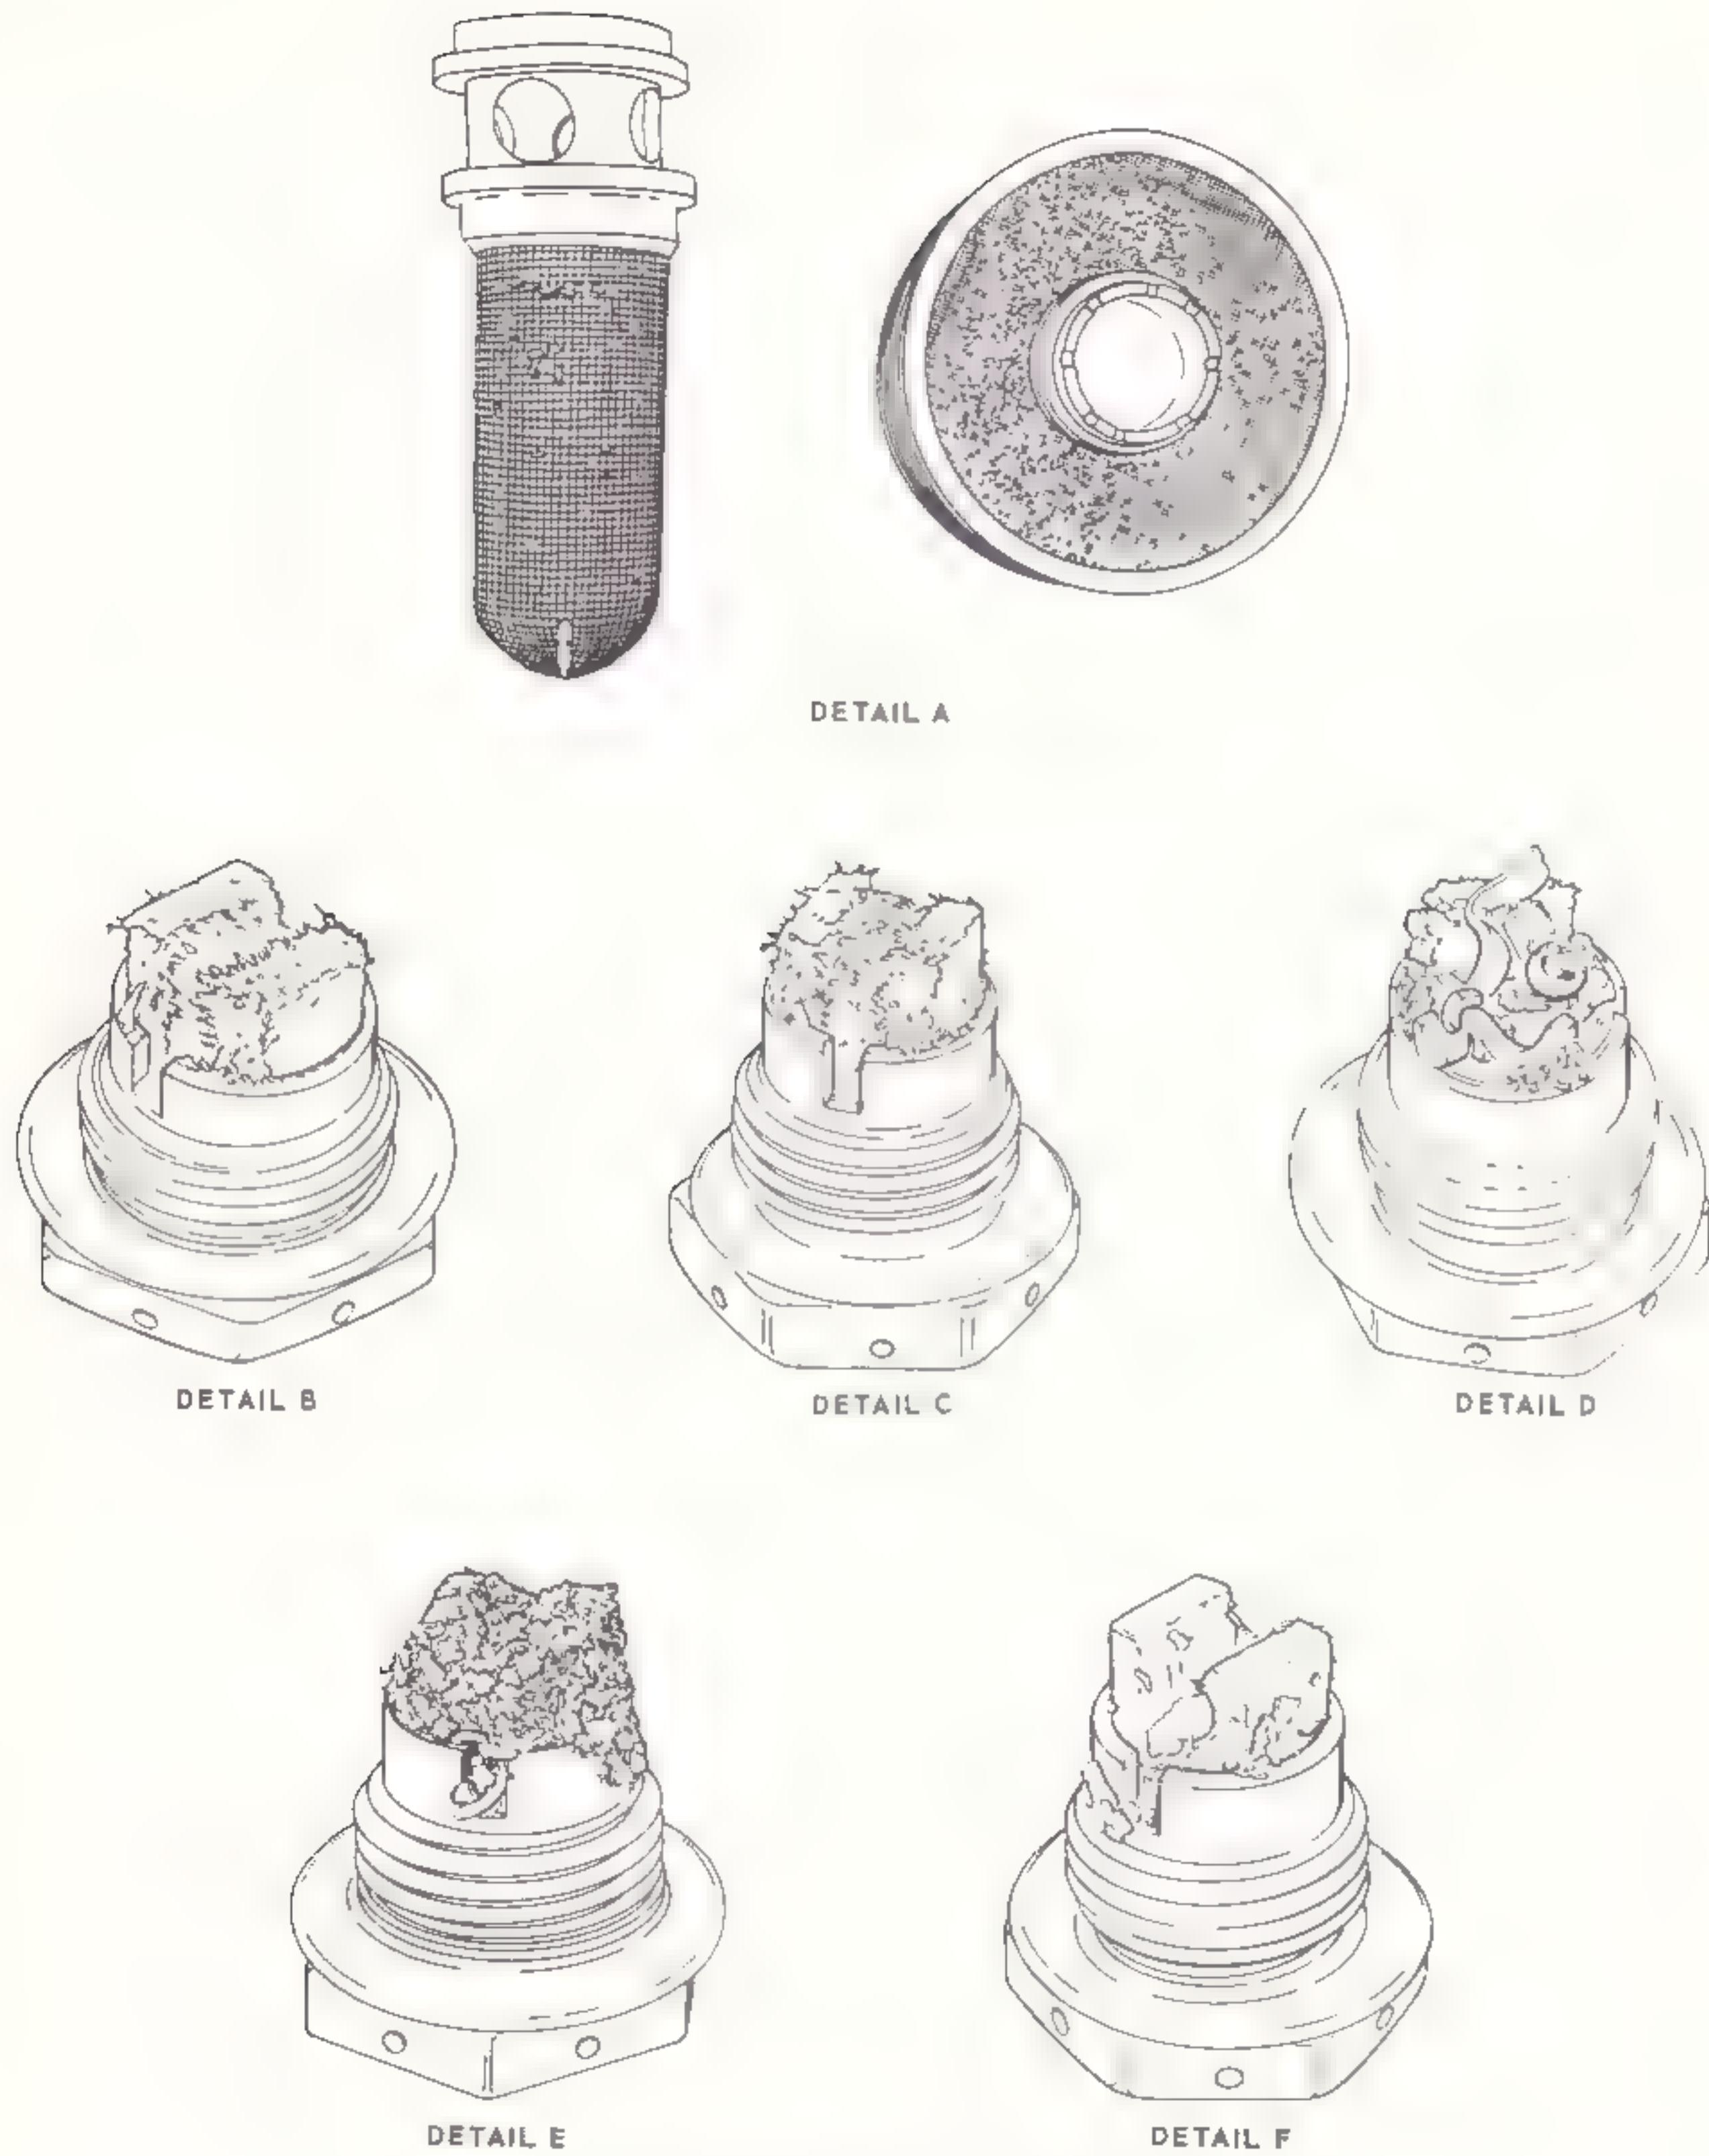

Figure 7-2. Identification of metal particles
7-4. Metal Particle Contamination of Main, Intermediate, and Tail Rotor Gear Box Oil. Metal particles found on the main gear box oil strainer screen or oil filter (detail A, figure 7-2), illumination of warning light in the magnetic chip detector system of the main gear box, and metal particles found on main, intermediate or tail gear box magnetic plug (detail B through F) or in oil may indicate failure of an internal part of the gear box. When metal particle contamination is detected, the gear boxes must be flushed. Oil may be checked for metal particles by filtering through cheesecloth or filter paper. The gear boxes shall be inspected for metal particle contamination at the following times:
7-5. Identification of Metal Particles. (See figure 7-2.) A visual inspection of color and hardness will occasionally suffice to identify the particles. When visual inspection does not positively identify the particle, the kind of particle present may be determined by a few simple tests. Equipment to perform tests includes a permanent magnet, an electric soldering iron, hydrochloric acid (item 47, table 1-8), and nitric acid (item 46, table 1-8). Proceed as follows: